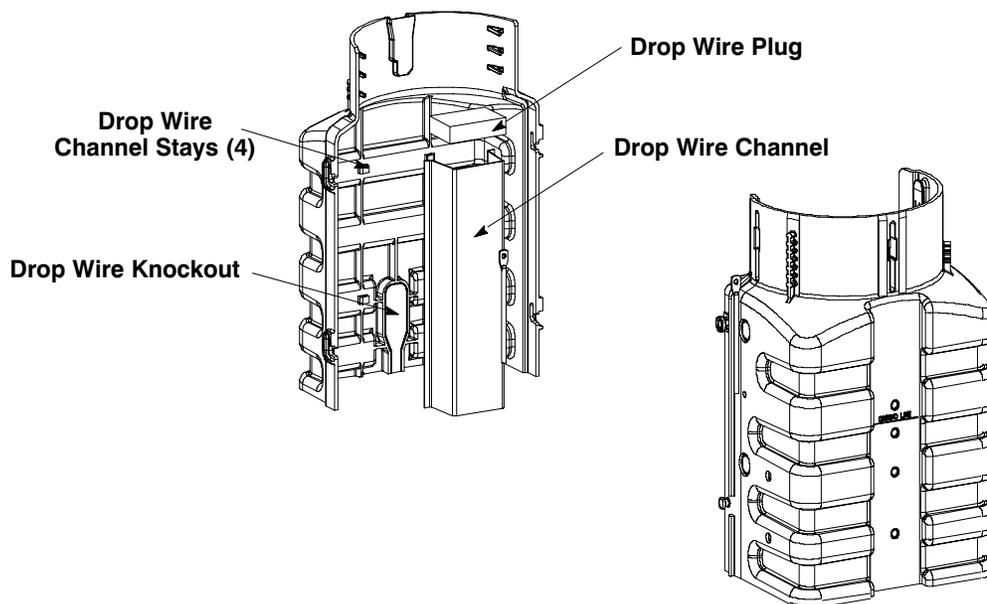

Figure 2. CP2 Base
5.	If not already installed, seat the drop wire channel (if supplied with the unit) into the stays inside the front half of the base. The top of the drop wire channel should rest on the under side of the square to round transition. (See Figure 2.)
6.	Insert the foam plug into the top of the channel, leaving 1/3 to 1/2 of the foam plug above the top of the channel. (See Figure 2.)
9.	When utilizing a drop wire channel, the unit is equipped with an elongated knockout on the front half of the base for placement of buried drops (See Figure 2). This knockout should be removed prior to installation of the base. Depending on your company's practices this knockout may have already been removed. If not, you will need a small flat blade screwdriver and a mallet. To remove the elongated knockout, lay the front half of the base on the ground with the inside of the base facing up. Place the blade of the screwdriver in the knockout groove and tap the top of the screwdriver with a mallet. Continue around the elongated knockout until the knockout is removed.
9.	<p>When utilizing a drop wire channel, the unit is equipped with an elongated knockout on the front half of the base for placement of buried drops (See Figure 2). This knockout should be removed prior to installation of the base. Depending on your company's practices this knockout may have already been removed. If not, you will need a small flat blade screwdriver and a mallet. To remove the elongated knockout, lay the front half of the base on the ground with the inside of the base facing up. Place the blade of the screwdriver in the knockout groove and tap the top of the screwdriver with a mallet. Continue around the elongated knockout until the knockout is removed.</p>